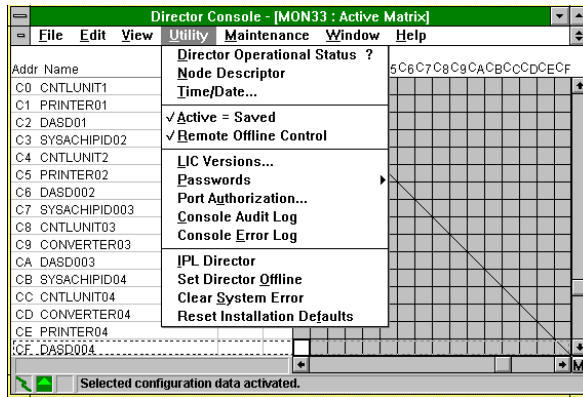

Figure 3-1. Active = Saved Option
- b. On the *Utility* menu of the active matrix window, is the *Active=Saved* option selected next to menu option)? Refer to Figure 3-1 on page 3-6.